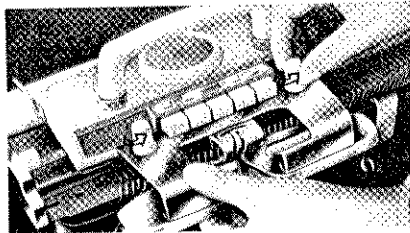

Fig. 14
- b. Take out the sinker plate assembly from the upper carrying case. Loosen the plastic thumb screws of carriage, insert the sinker plate assembly as far as it will go and fasten the thumb screws securely. (See Fig 14, 15)